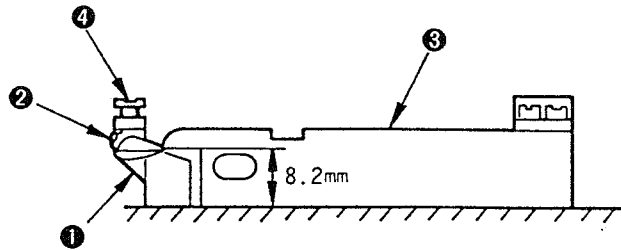

Fig. 8
Fit looper ② first in looper mounting base ① shown in Fig. 8, and temporarily tighten screw ④.
Then, place timing gauge ③ on a flat board as illustrated in Fig. 8, and firmly tighten screw ④.
- ① Position of the looper with respect to the direction of rotation